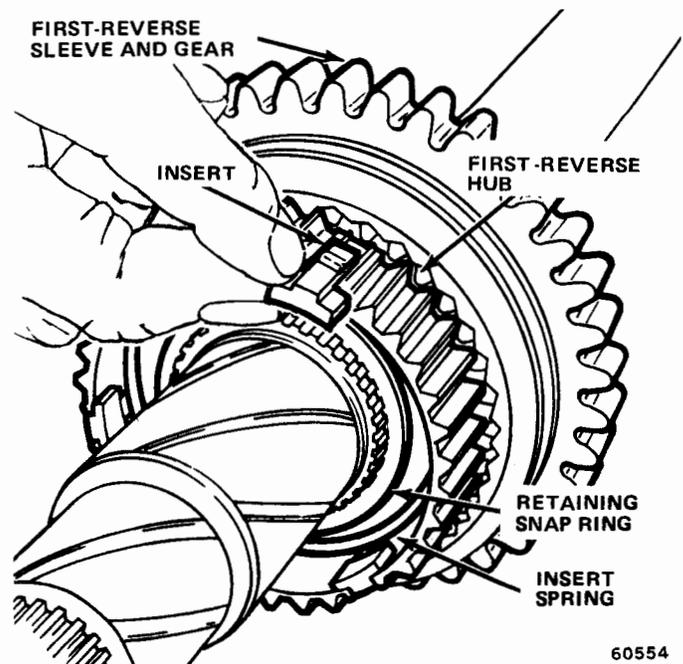
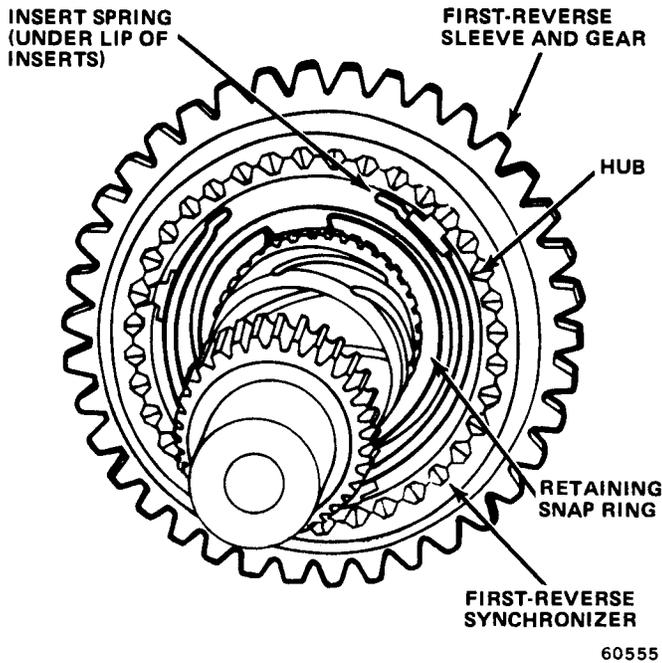
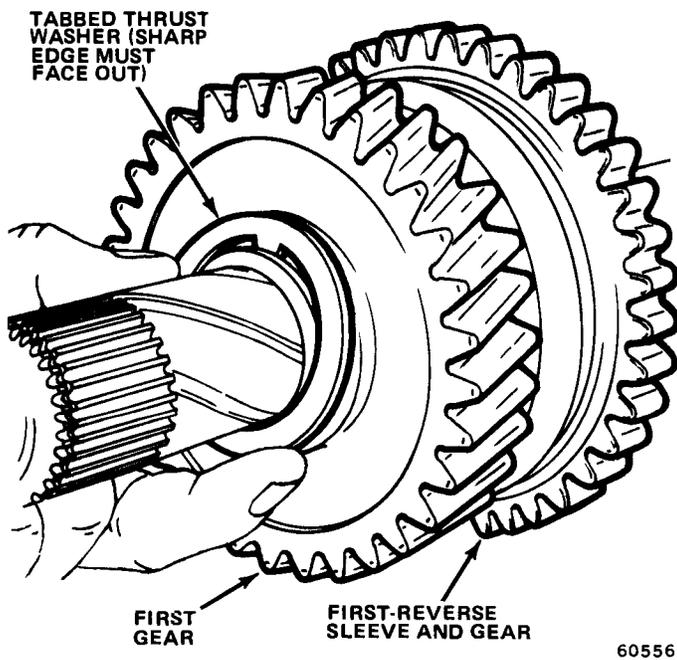
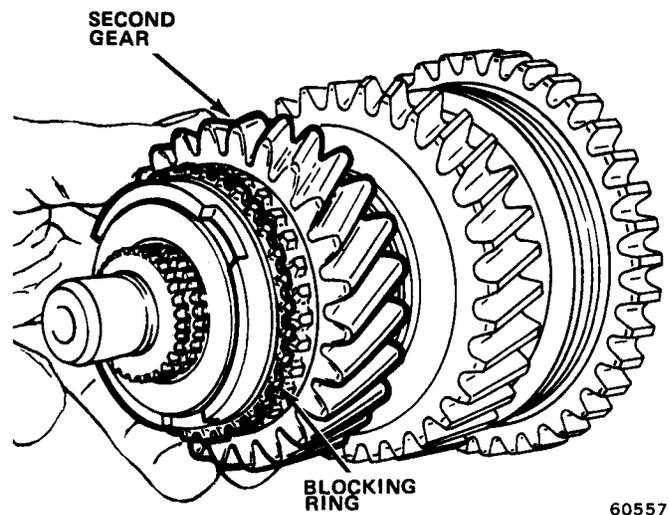

Fig. 6-9 Installing Inserts In First-Reverse Hub
Fig. 6-10 Snap Ring and Insert Spring Position in First-Reverse Hub
Fig. 6-11 Installing First Gear Thrust Washer on Main Shaft
Fig. 6-12 Installing Second Gear on Main Shaft
Use arbor press to complete hub installation on shaft and install retaining snap ring in most rearward groove (fig. 6-9).
(11) Coat splines on First-Reverse hub with transmission fluid and install First-Reverse sleeve and gear halfway onto hub with gear end of sleeve facing rear of shaft. Index sleeve to hub with alignment marks made during disassembly.
(12) Install insert spring in First-Reverse hub. Make sure spring is bottomed in hub and covers all three insert slots. Position three T-shaped inserts in hub with small ends in hub slots and large ends inside hub (fig. 6-9). Push inserts fully into hub so they seat on insert spring, then slide First-Reverse sleeve and gear over inserts until inserts engage in sleeve (fig. 6-10).
(13) Coat bore and blocking ring surface of First gear with transmission fluid and place First gear blocking ring on tapered surface of gear.
(14) Install gear on output shaft. Rotate gear until notches in blocking ring engage inserts in First-Reverse hub, then install tabbed thrust washer (sharp edge facing out) and retaining snap ring on main shaft (fig. 6-11).
(15) Coat bore and blocking ring surface of Second gear with transmission lubricant and place Second gear blocking ring on tapered surface of gear.
(16) Install Second gear on output shaft with tapered surface of gear facing front of main shaft (fig. 6-12).